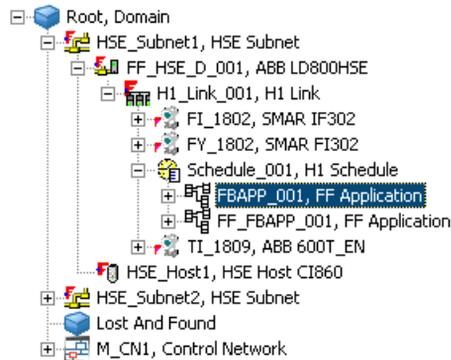

Figure 170. Selection of the FF Application
1. Select an **FF Application** object in the Plant Explorer **Control Structure** (refer to Figure 170).